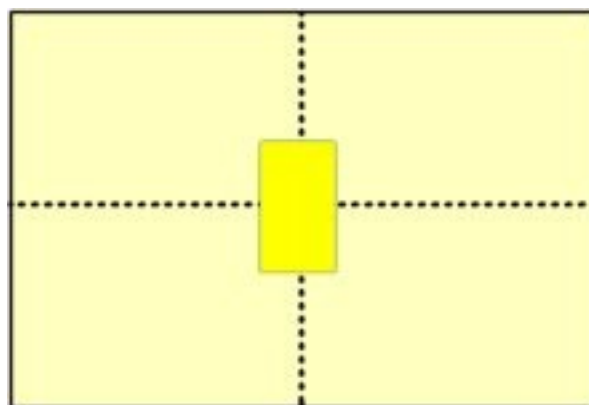

Figure 7 : Superimposed images on aligned system
The Triplesplit is an intuitive device, with a single control for adjusting image separation (blue arrow in fig 7). This allows different field sizes to be defined, allowing speed optimisation for fast imaging applications. There are additional controls for defining both the field of view and image centration which depend on the type of aperture fitted to the Triplesplit. The figure below shows the Triplesplit fitted with the rectangular aperture, and its size is adjusted using the pair of levers indicated by the yellow arrows. If an iris diaphragm is supplied, this is adjusted by rotation of a single lever in the same location.
When the camera is mounted correctly (as described in section 2 above) the “Split” control will control the horizontal image separation of the short and long wavelength images either side of the mid wavelength image (blue arrow in fig.7 above), and together with the aperture levers these are the only controls that will be routinely adjusted during experiments. The remaining controls on the top-plate all adjust the alignment and centring of the two images and should not need to be adjusted unless the filter set has become mis-aligned.
Turning the “Split” control counter-clockwise will horizontally separate the spectrally resolved images (fig.7 blue arrow).
If the Optosplit controls have been badly misaligned, the Optosplit images can show significant aberrations, or in extreme cases only a single image may be observable for any setting of the separation control. In these cases the following procedure will enable the device setup to be reconfigured. Control locations are shown in figure 7.
3. Attempt to centre the reflected image pathway horizontally using the separation control to scan the position range (blue arrow, fig.7).